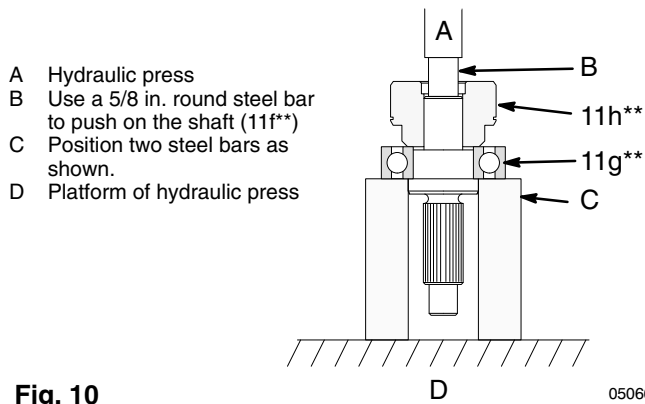

Fig. 10
4. **Using a hydraulic press**, place pieces of steel bar stock on the inner race of the bearing (11g**) and press the shaft through the hub and bearing. See Fig. 10.